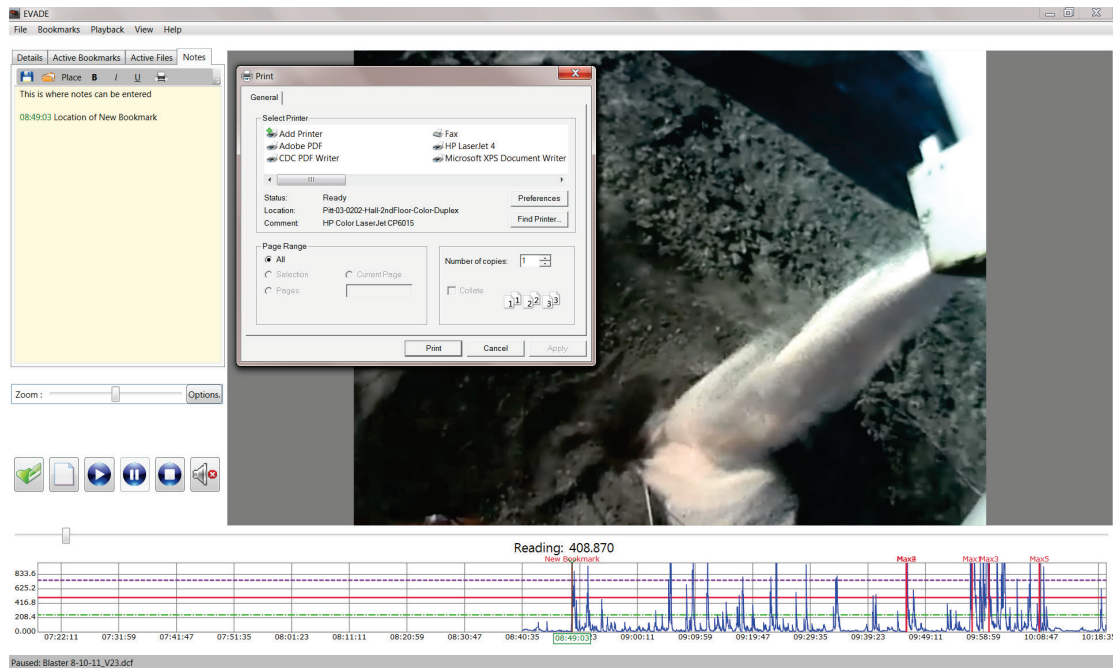

Figure 59. Display of the Print dialog box from the Notes tab.
- **Print**. Clicking on the **Print** icon opens the Print dialog box which allows you to send the notes to a printer (Figure 59).